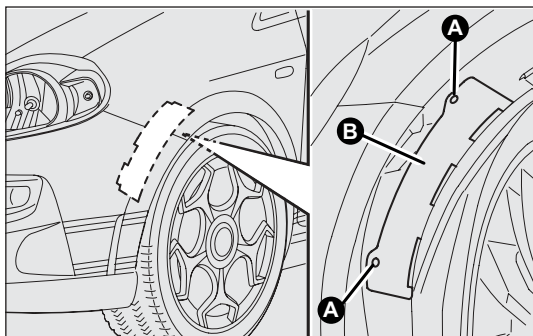

fig. 140
### Front fig. 140
- ❑ unscrew the catch A-fig. 140, then lift off the access lid B;
- ❑ close the flap B-fig. 140 then screw in the catch A.